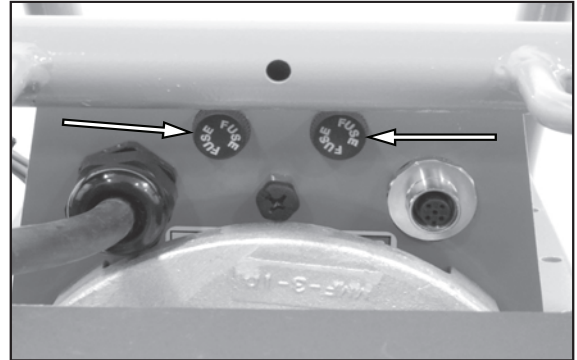

Figure 8.
2. See Figure 8. Remove the fuse holder.